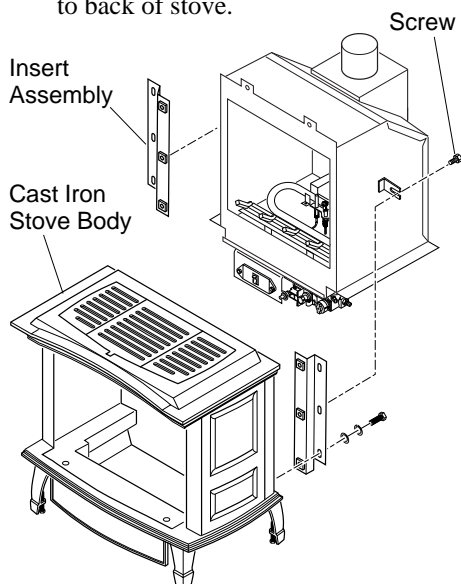

Figure 17 - Installing Firebox Into Cast Iron Stove Body
1. Attach the two brackets to the back of the stove (see Figure 17). Use the screws and washers from step 4 of *Stove Body Assembly* on page 5.